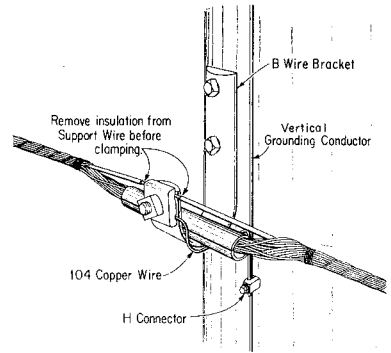

Fig. 32—Connecting Support Wire to Vertical Grounding Conductor
5.06 Where the multiple line wire is supported in a B wire bracket, the support wire may be grounded by being connected to the vertical ground of a multigrounded neutral power system as shown in Fig. 32.